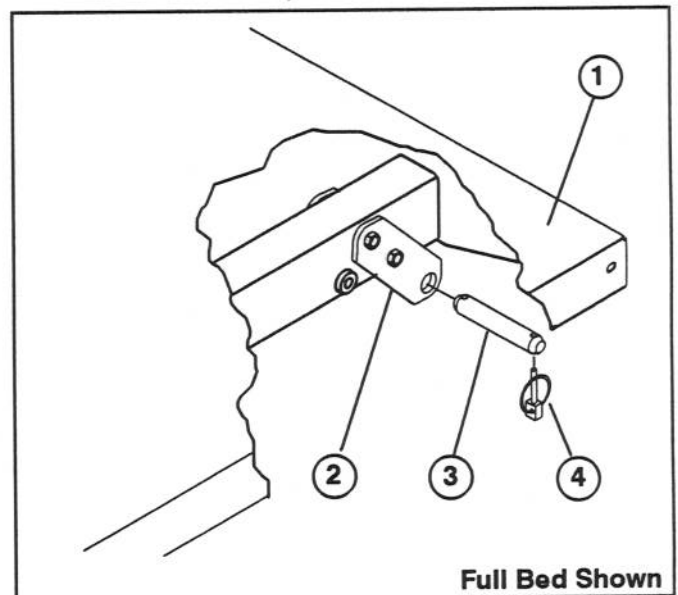

Figure 2
1. Remove clevis pins and lynch pins installed to bed pivot plates for shipping (Fig. 2).
2. Remove capscrews and locknuts securing rear pivot plates to right and left bed frame channels (Fig. 2).